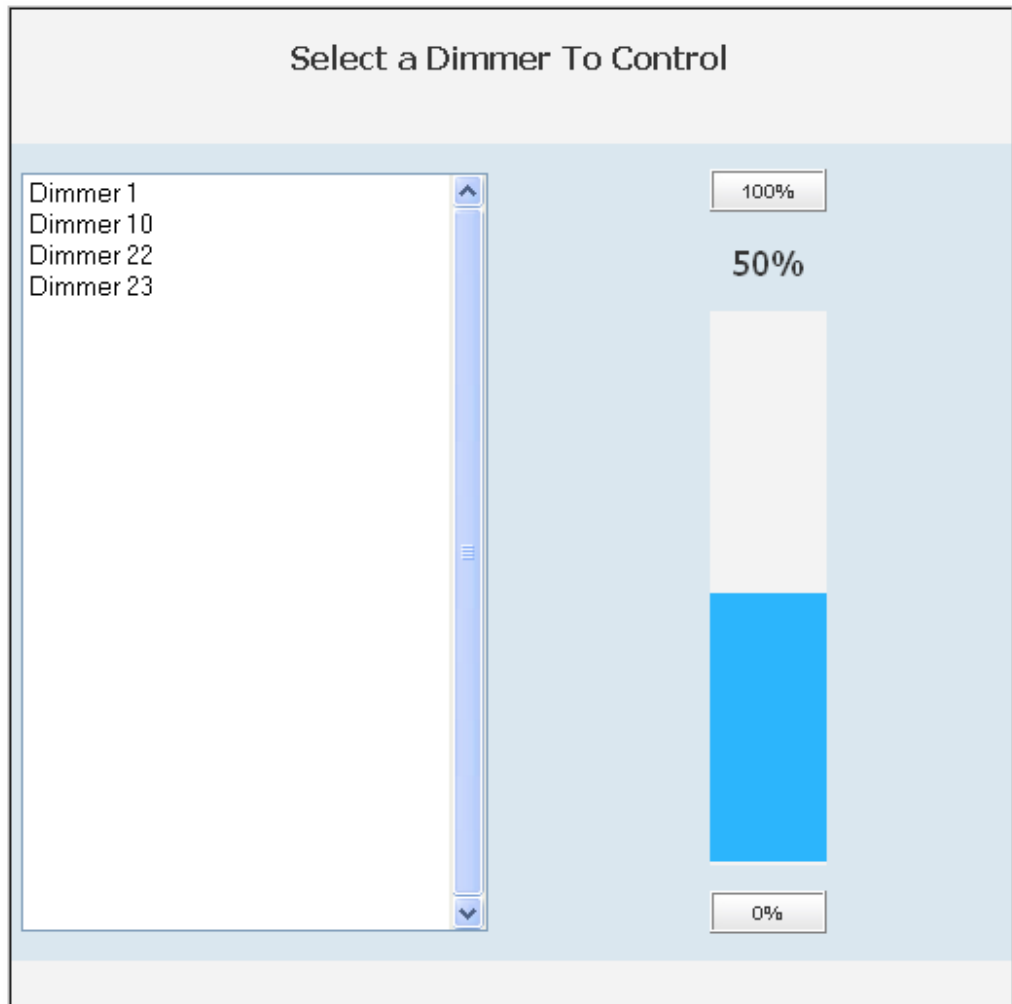

FIG. 4 Dimmer Control
1. Click the button **Dimmer Control** to open the Dimmer Control page. (FIG. 4)